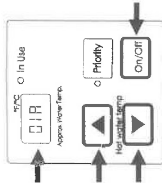

Figure 6: Controller Display
- Press the **A** button for 1 second. **01A** appears on the controller display (Figure 6).
- Press the **On/Off** button to change the selection between **05A** for BMS and **05b** for Air Handler (AH).